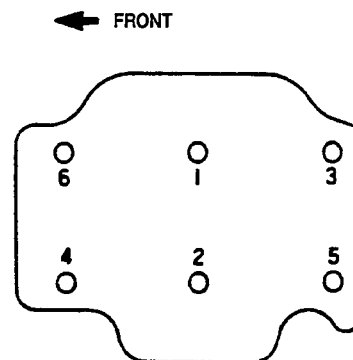

FIGURE 9-26. HEAD BOLT TIGHTENING SEQUENCE
7. Install the cylinder head assembly to the cylinder block and tighten the head bolts with special tool "Cylinder Head Bolt Wrench". Tighten the bolts in two or three steps in the numbered sequence shown in Figure 9-26. In the last step, tighten the bolts to the specified torque.